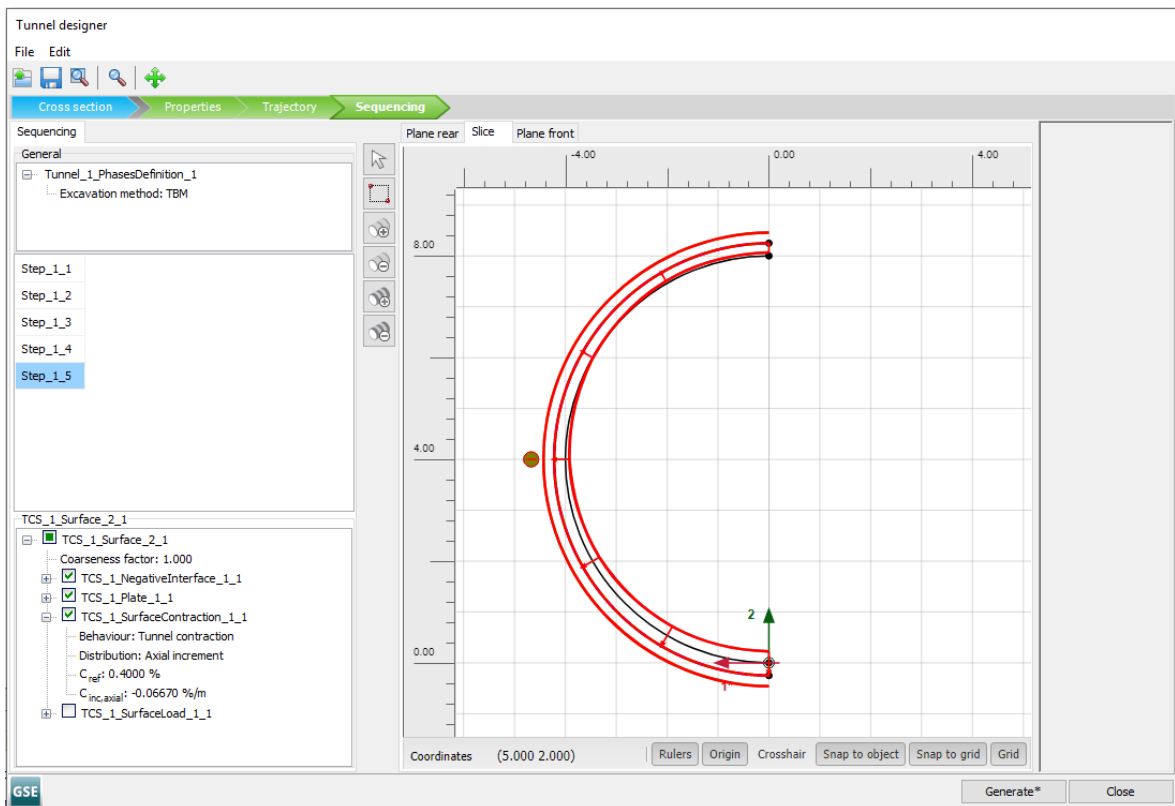

Figure 71: Slice tab in the **Tunnel designer** from Step_1_3 to Step_1_5
- Click on the **Add Step** button three times to add three new steps. These steps are necessary to define the remaining cone part of the TBM shield (Figure 71 (on page 98)).
Step_1_5: $C_{ref} = 0.4\%$, see Figure 71 (on page 98)